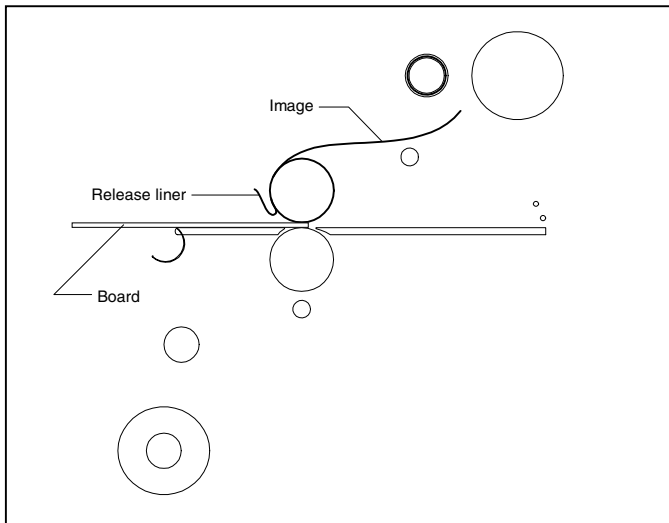

Fig. 35
#### TIPS FOR MOUNTING A DECAL (Figure 35)
1. Load the laminator as illustrated in Figure 35.